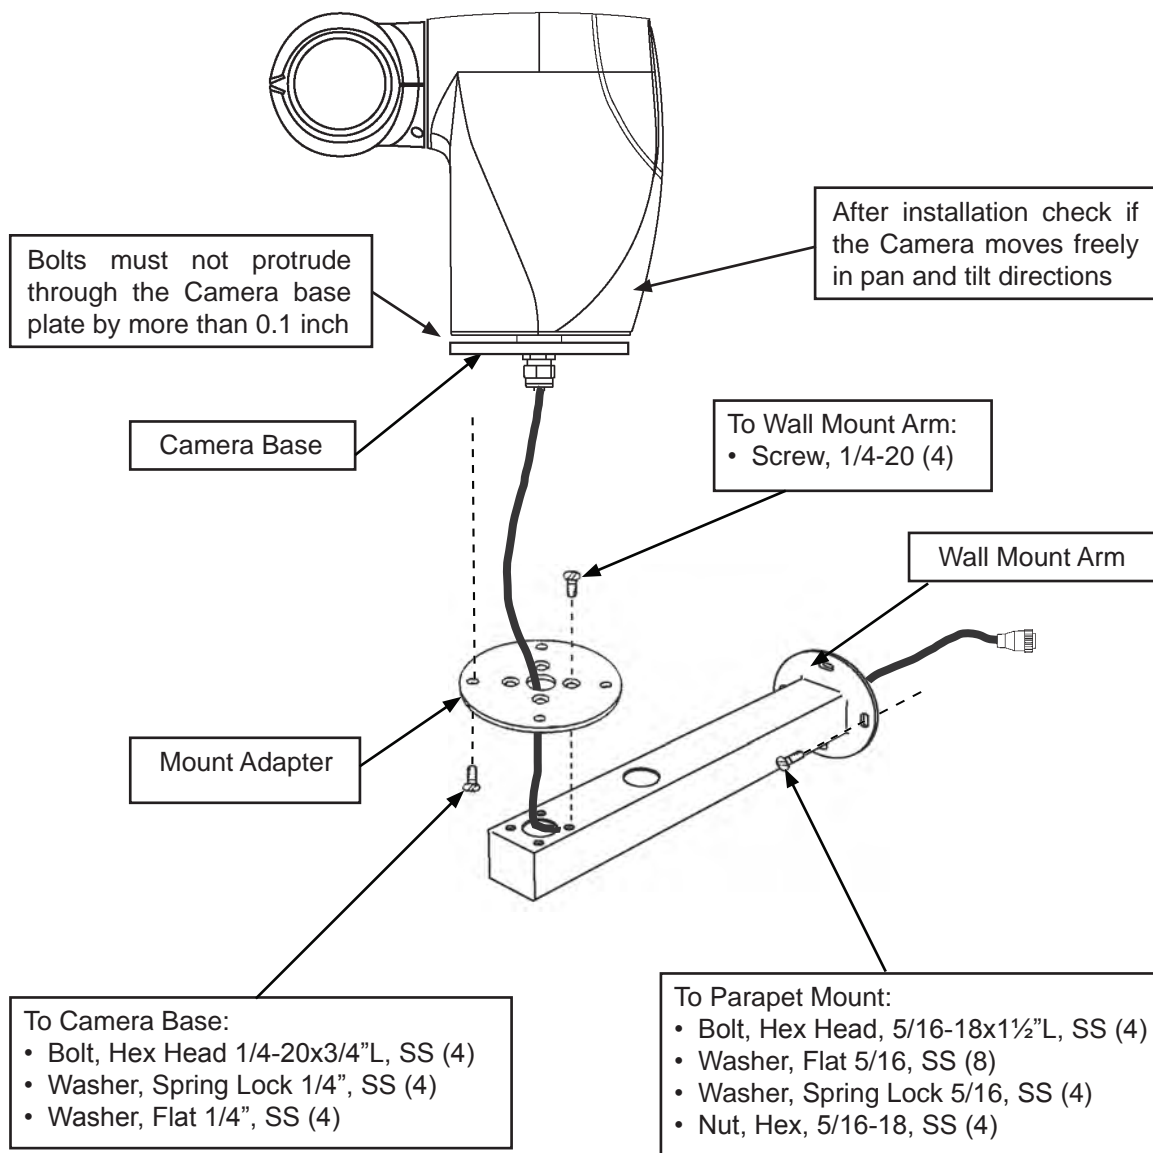

Figure 29. Installation to the Parapet
- Fasten the parapet mount adapter to the structure (see Figure 29) in accordance with instructions: